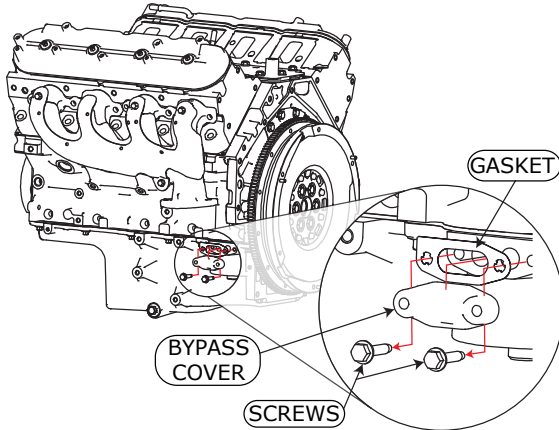

Figure 4 - Removing the factory bypass cover
4. Remove the bypass cover or factory oil cooler (if equipped) flange screws with a 10 mm socket or wrench. Be sure to remove the factory gasket, shown in Figure 4.